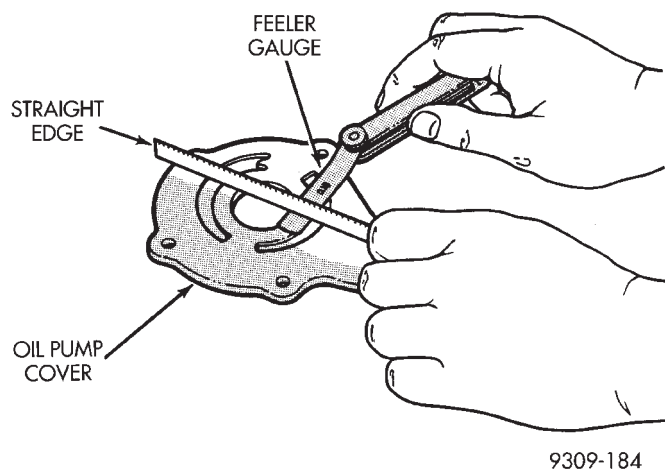

Fig. 113 Checking Oil Pump Cover Flatness
(1) Clean all parts thoroughly. Mating surface of the oil pump housing should be smooth. Replace pump cover if scratched or grooved.
(2) Lay a straightedge across the pump cover surface (Fig. 113). If a 0.076 mm (0.003 inch.) feeler gauge can be inserted between cover and straight edge, cover should be replaced.